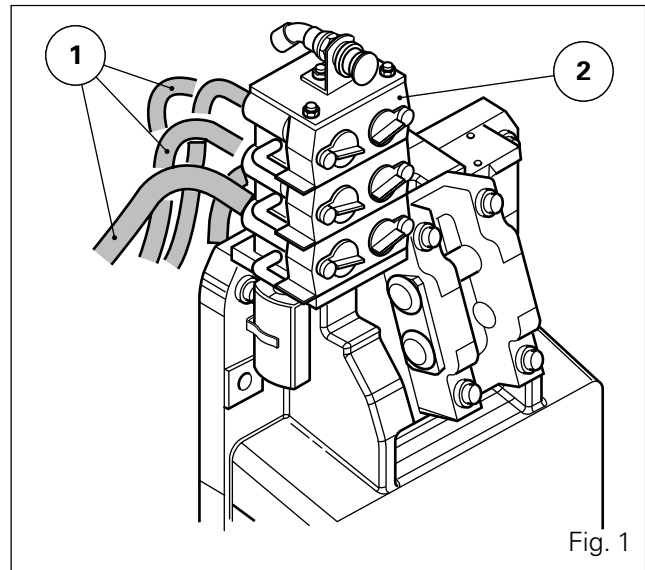

Fig. 1
2. Mark the position of the hoses (1) and disconnect hydraulic couplers (2) (Fig. 1).